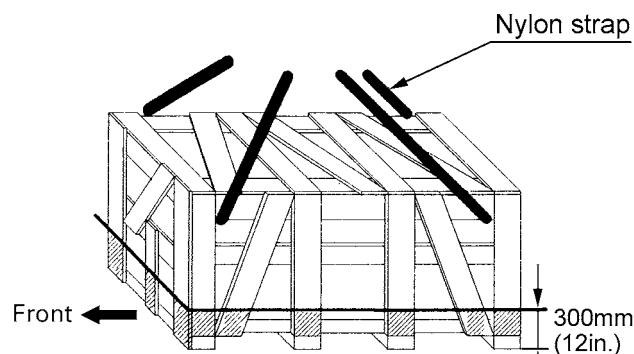

Figure 1 : Cutting area of the crate
- (1) Hook a hoist to the 4 corners of the crate and raise the hoist cable until taut. This serves to prevent the upper part of the crate from striking the loader when cut.
- (2) Saw the crate as indicated in figure 1.
- (3) Raise the upper part of the crate and remove from the immediate area.
- (4) Remove the remaining slats from the crate. These are indicated by the oblique lines in Figure 1...